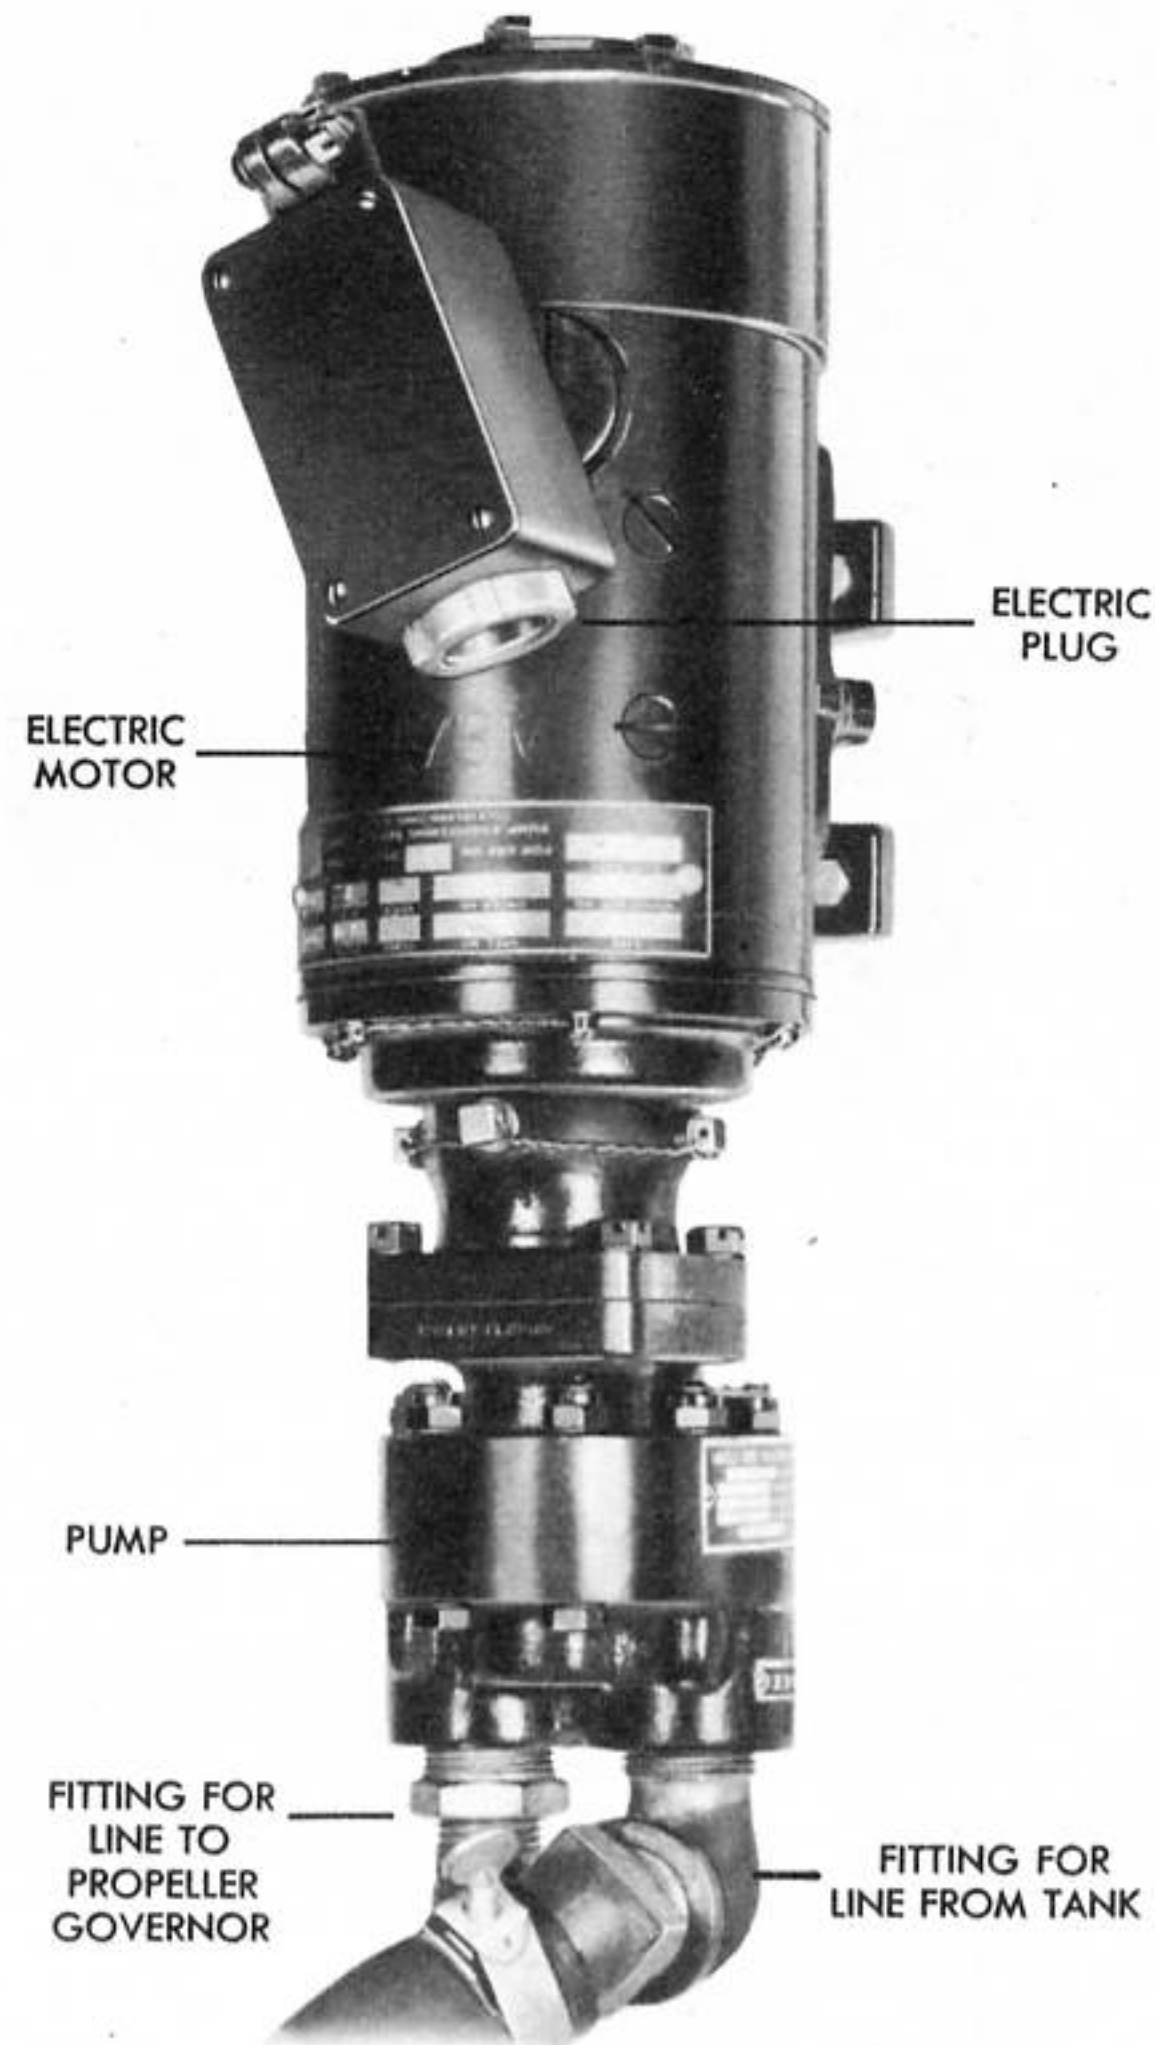

Figure 130 - PROPELLER FEATHERING PUMP
(8) OIL DILUTION VALVE. - An oil dilution valve is located on the forward side of the fire wall and is solenoid operated. The valve is controlled by a switch in the pilot's cockpit. Purpose of the oil dilution valve is to dilute the engine oil with gasoline. Fuel supply line is connected directly from the carburetor to the valve, through a restricted fitting.
(9) PROPELLER FEATHERING PUMP. (See figure 130.) - An electrically driven pump mounted forward of the fire wall pumps oil from the supply